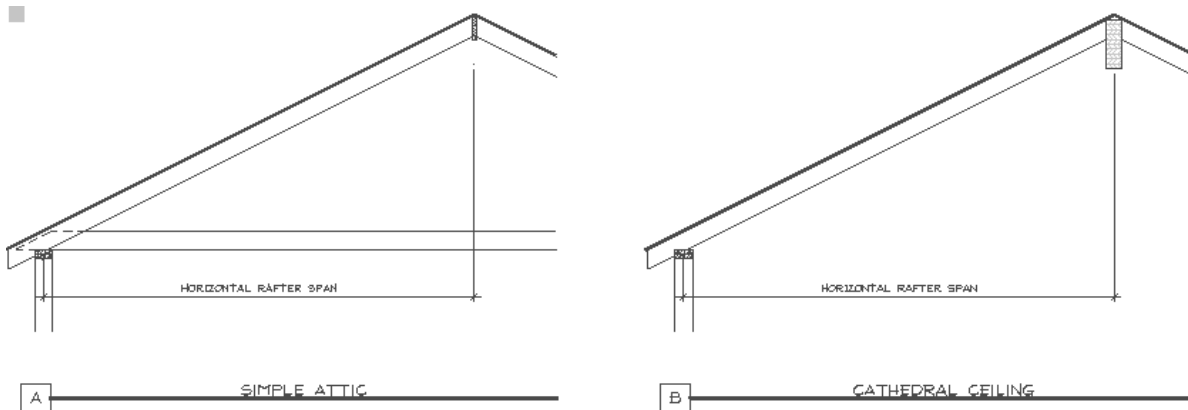

Figure 4. Definition of Rafter Horizontal Span.
1. See Figure 4 for definition of roof rafter maximum horizontal span.